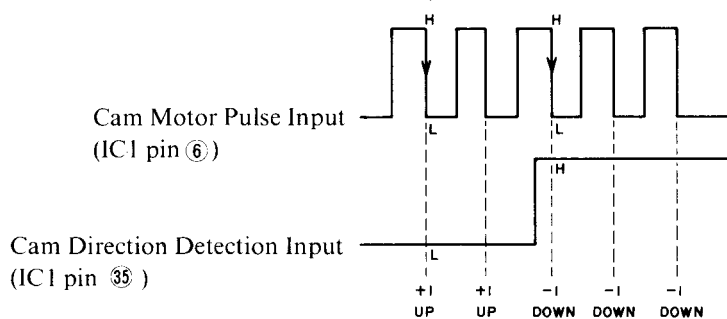

Fig. 6-2
**6-1-8.** PHOTO SENSOR B (PH3) is used for the detection of CAM direction. That part of the CAM MOTOR PULSE in which the pulse changes from "H" to "L" is used for counting up (+) and down (-) as indicated in Fig. 6-2 to set up CAM WHEELS (L) & (R).